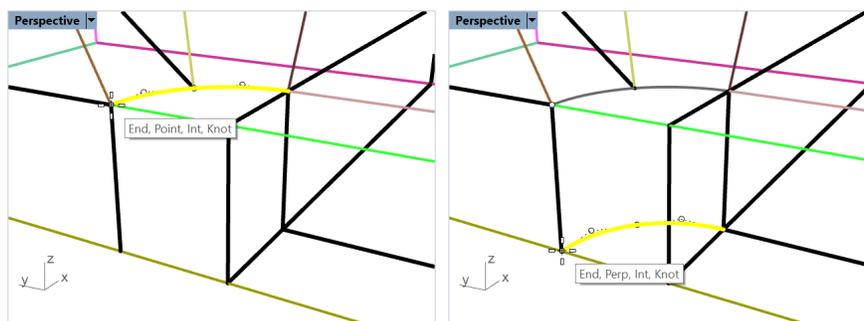

Figure 40: Copying the arcs.
11. Select the bottom two arcs and copy them using the **_Copy** command. For *Point to copy from*, select the left corner of the arcs as shown in Figure 40, then, within command options, click on *Vertical* to set it to *Yes*, and drag the corner down until it hits the bottom line and the mouse tooltip is as in Figure 40.